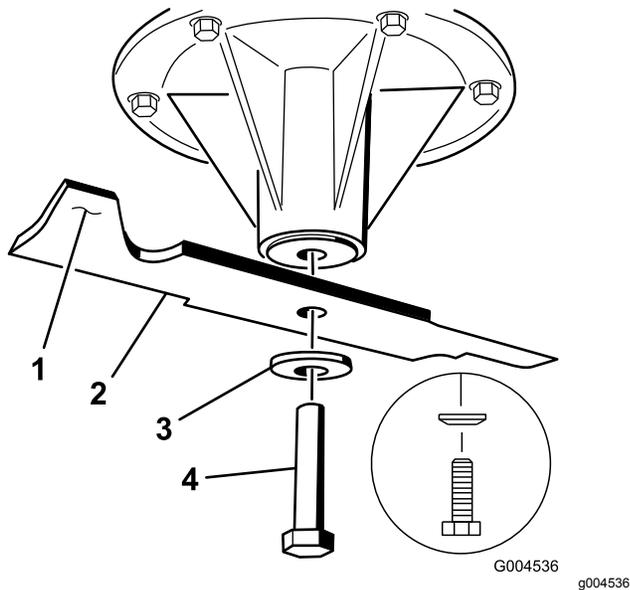

Figure 113
1. Install the blade onto the spindle shaft (Figure 113).
2. Install the spring disk and blade bolt (Figure 113).
Note: The spring-disk cone must be installed toward the bolt head (Figure 113).